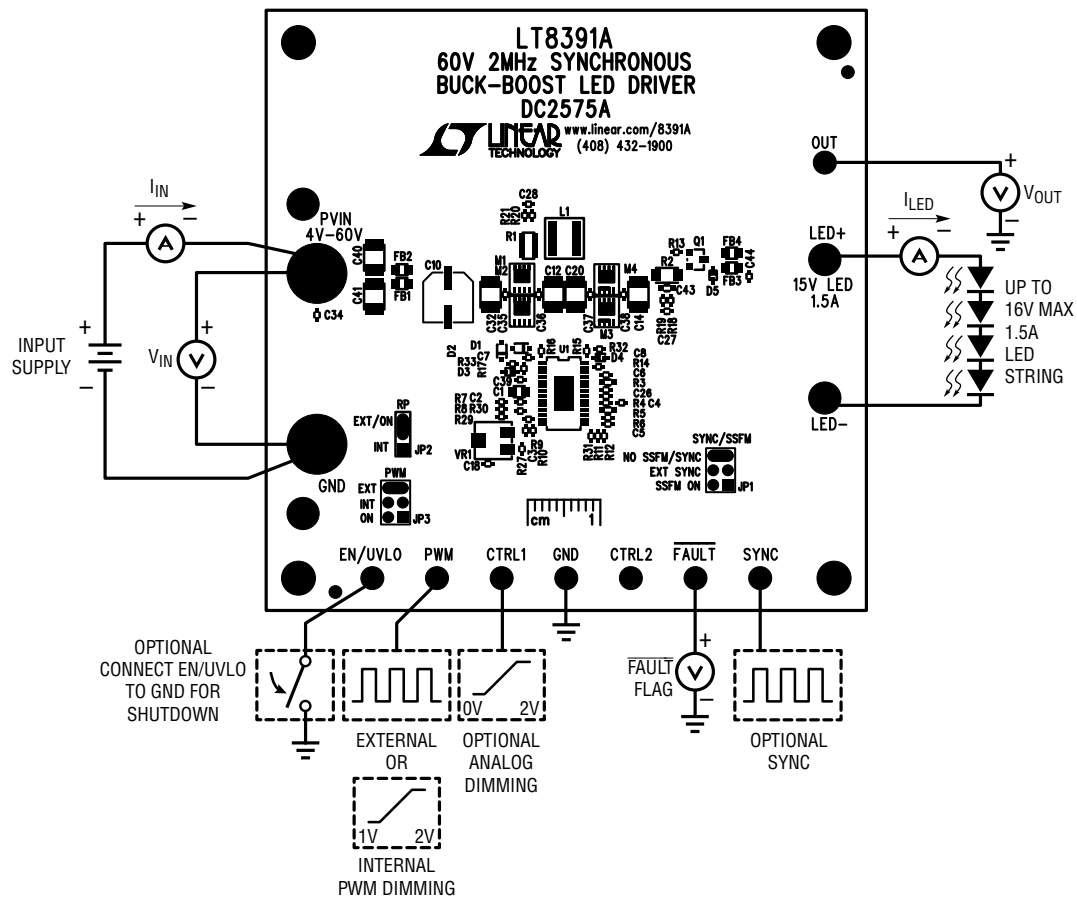

Figure 1. Test Procedure Setup Drawing for DC2575A
1. With power off, connect a string of LEDs that will run with forward voltage less than or equal to 16V (at 1.5A) to the LED⁺ and LED⁻ banana jacks on the PCB as shown in Figure 1.